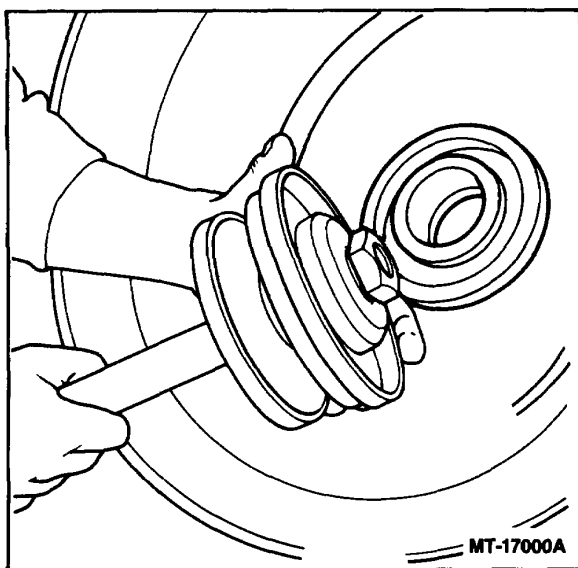
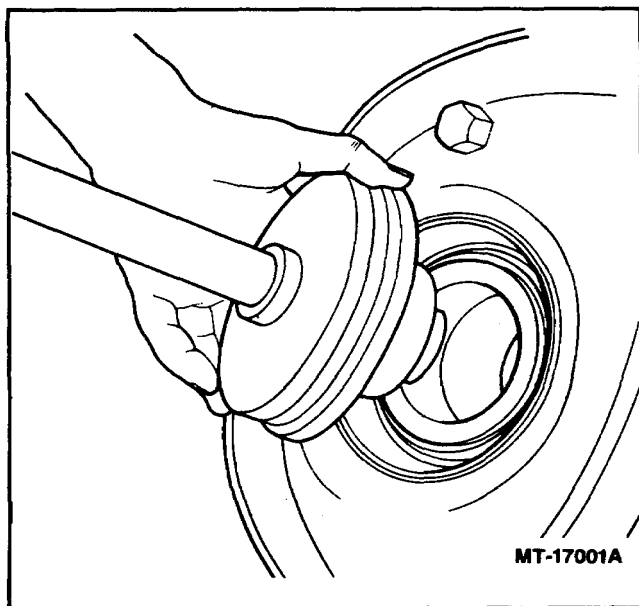

Figure 23.
Figure 24.
3. To install unitized seal in wheel, seat outer face of seal in the recess of tool adapter (Figure 23). Insert centering plug of tool in bore of inner bearing cone (Figure 24). Using the centering plug aids in prevention of seal cocking in-wheel bore.